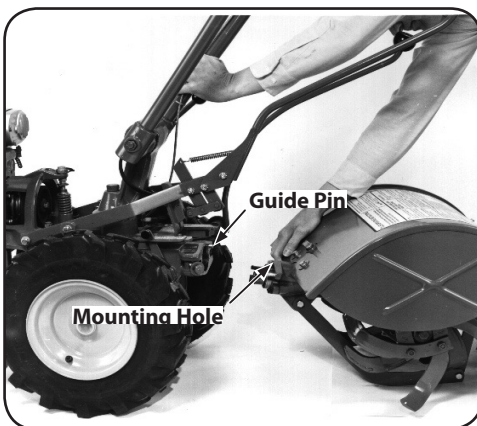

Figure 4-23
- Tip the PTO power machine forward about one inch with one hand while pulling the tine attachment back. See Figure 4-23.